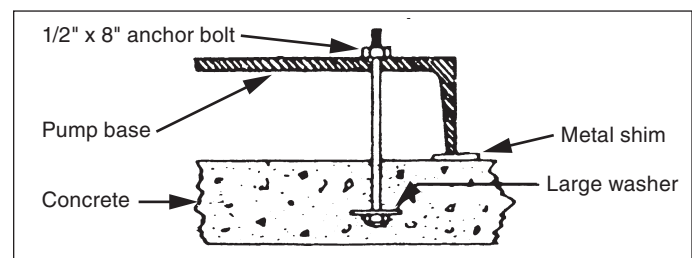

Figure 1.1
- The foundation for the pump is important. The foundation must be firm, level and preferably made of concrete. The suggestions in figure 1.1 should be observed.